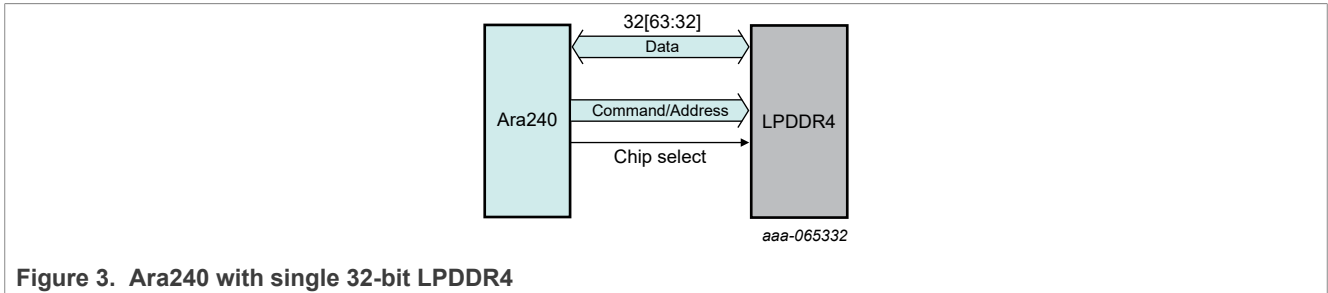

Figure 3. Ara240 with single 32-bit LPDDR4
- Single 32-bit LPDDR4 (Figure 3)